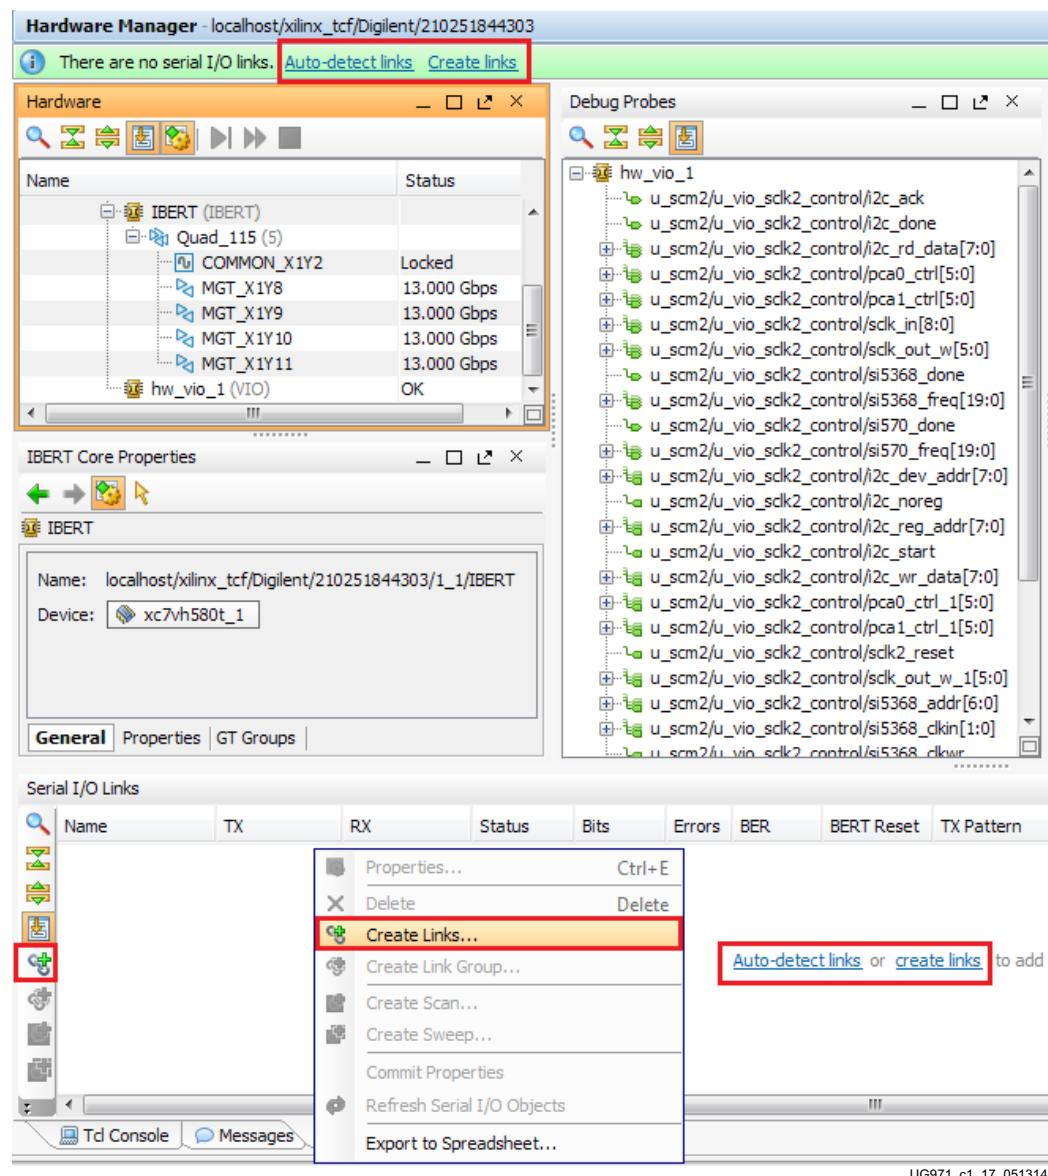

Figure 1-17: Serial I/O Analyzer—Create Links
5. To view the GTH transceiver operation, click **Layout > Serial I/O Analyzer**. From the top of the Hardware Manager window, select **Auto-Detect Links** to display all available links automatically. Links can also be created manually in the Links window by right-clicking and selecting **Create Links**, or by clicking the **Create Links** button (Figure 1-17).